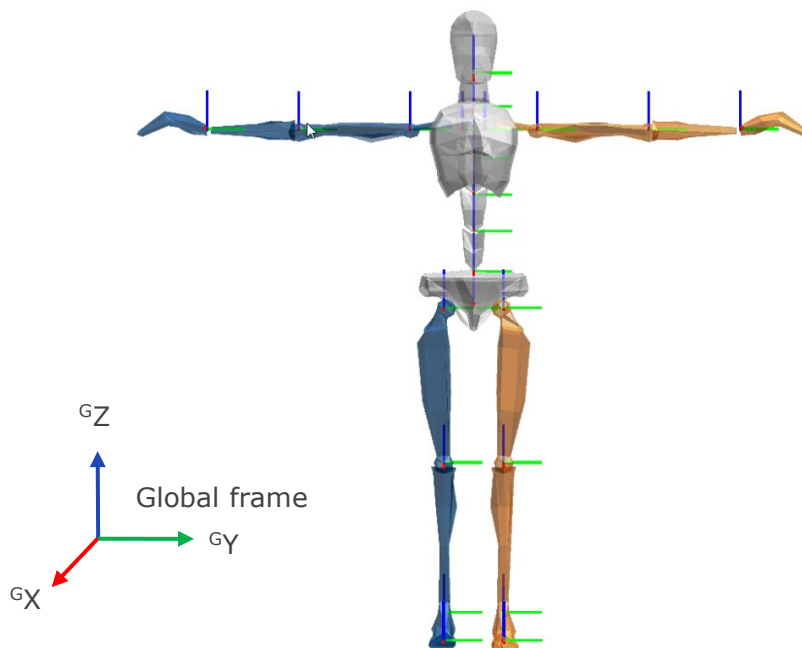

Figure 84: Segment coordinate system at each segment origin, as is used in MVN. Legend: x: red, y: green, z: blue
The axes of each body frame (B) are aligned with this Global reference frame (G) when the subject is standing in the T-pose as shown in Figure 84.
The section <segments> defines all positions (pos_b) of connecting joints (prefixed with a "j") and anatomical landmarks (prefixed with a "p") with respect to origin of that segment (in body frame *B*). The body frame (*B*) of this list of points is defined by Figure 84.